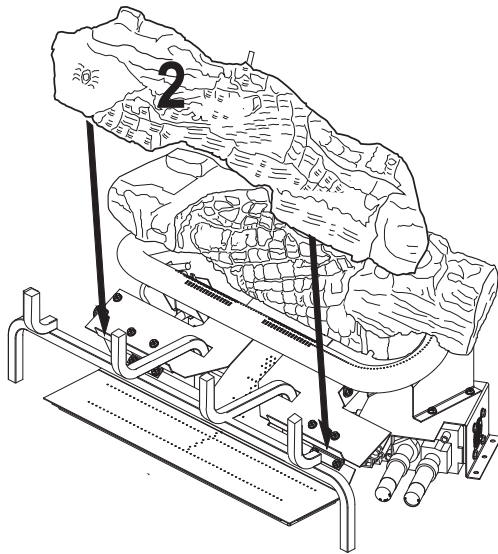

Figure 22 - Installing Log # 2
2. Place the middle log (#2) in front of the U-burner and against the edges of the plate as shown in **Figure 22, Page 18**.